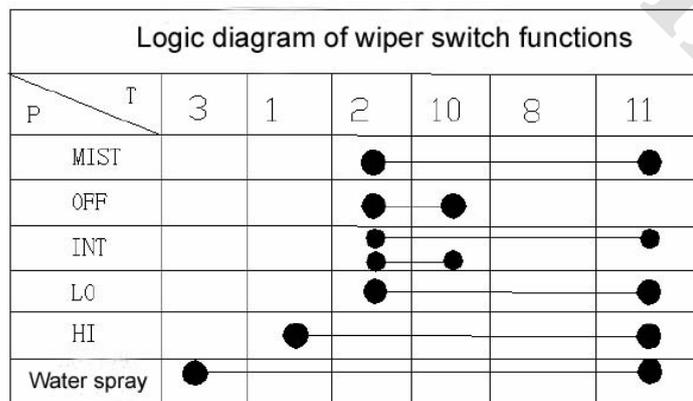

Fig. 4-101
(1) Check the conductivity between terminals of the wiper switch as shown in Fig. 4-101